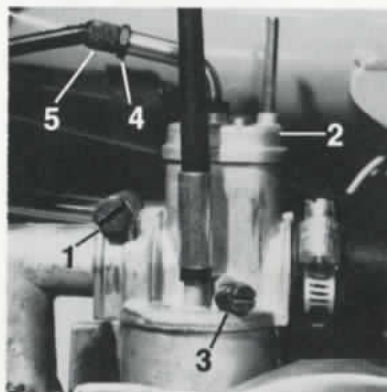

Fig. 20
- d) Loosen carburetor clamping screw (fig. 20/1).
- g) Undo screws and pull out the top parts with throttle piston and choke (fig. 20/2).
- c) If the engine threatens to stall, screw in the adjuster (fig. 20/3) until the engine in warm condition regains its even tickover.
- a) Loosen counter nut of the cable adjuster (fig. 20/4).
- b) Screw out cable adjuster (fig. 20/5) until there is a play on both the throttle cable and the throttle twist grip. (The cover of the throttle cable can be pulled out from the cable adjuster by appr. 0,0076 in. (2 mm), before the throttle slide is lifted, i.e. before the engine starts running faster.